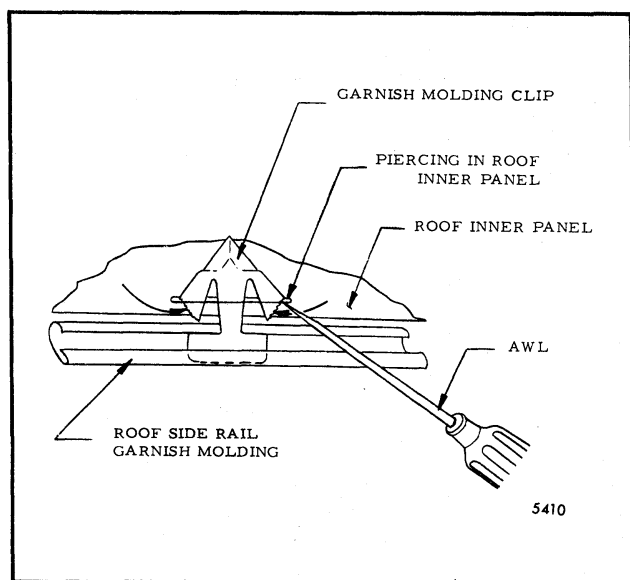

Fig. 8-14-Roof Side Rail Garnish Molding Attachment - "B-C-E" Styles
7. Using an awl or screwdriver, press downward alternately on front and rear tab of clip until clip disengages from roof inner panel (Fig. 8-14).